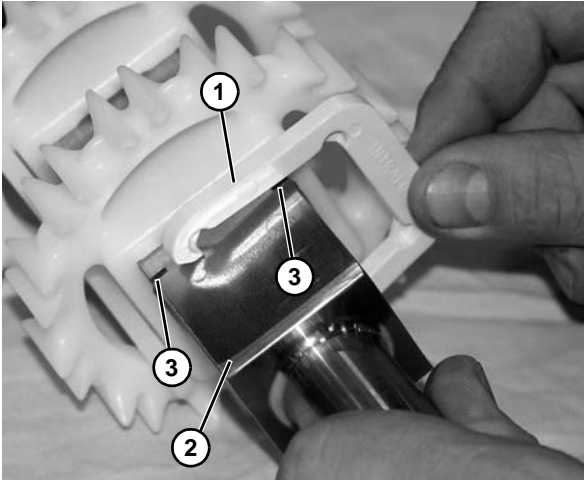

Figure 50
9. Remove the retaining clip (**Figure 50, item 1**) off the shaft (**Figure 50, item 2**).
*Make note of the recessed areas (**Figure 50, item 3**) of shaft where retaining clip seats into.*